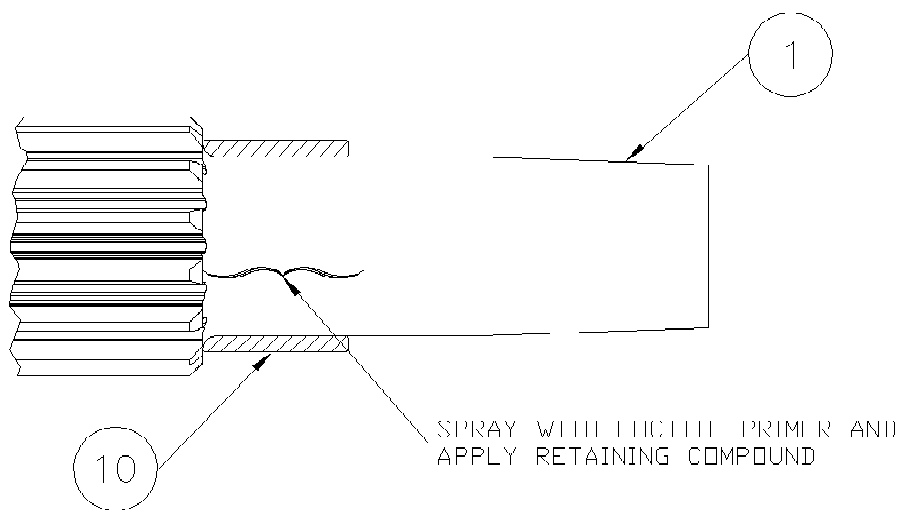

figure A-3
3. Thoroughly clean the pinion shaft (1) (fig. A-3) and inner races (10) with a mild solvent and dry completely. Spray the inner race contact area (shown in figure A-3) at each end of the pinion shaft and the inside diameter of the inner race thoroughly with *LOCTITE 7649 N PRIMER*. Apply *LOCTITE RETAINING COMPOUND 609* around the pinion shaft at contact area and the inside diameter of the inner races. Slide the inner races (10) on the pinion shaft (radius end first as shown in figure A-3) until the races seat against the gear teeth. After the races seat against the gear teeth, twist the races on the pinion 360° to spread the retaining compound evenly. Wipe off any excess retaining compound.